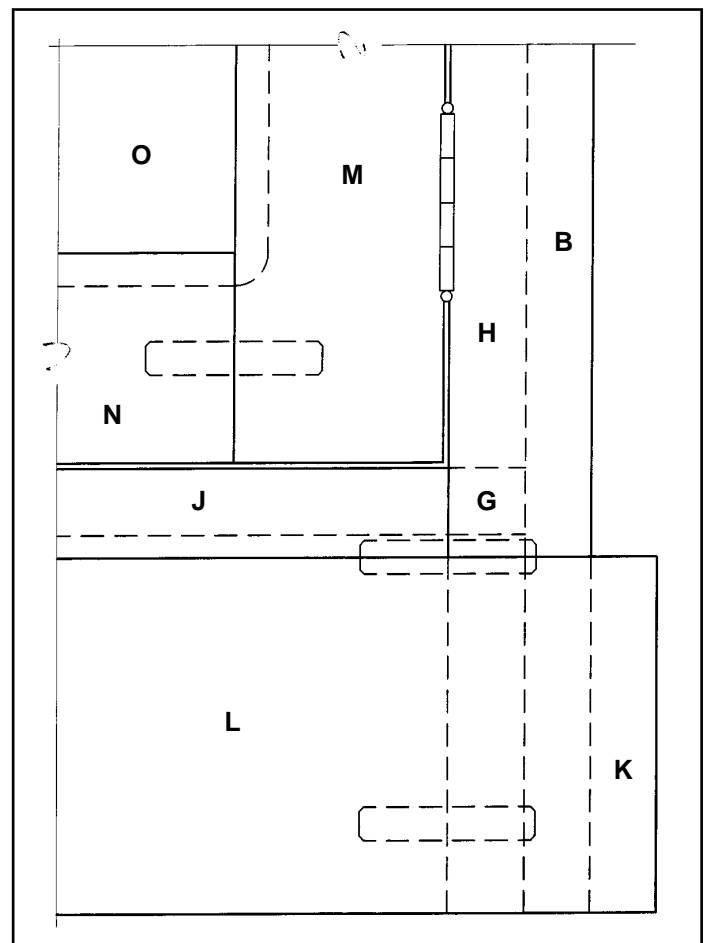

Figure 8
7. Attach lower cabinet face frame (H, I, J) to boards B using 1 1/4" finish nails and glue. Refer to Isometric and Figure 8.